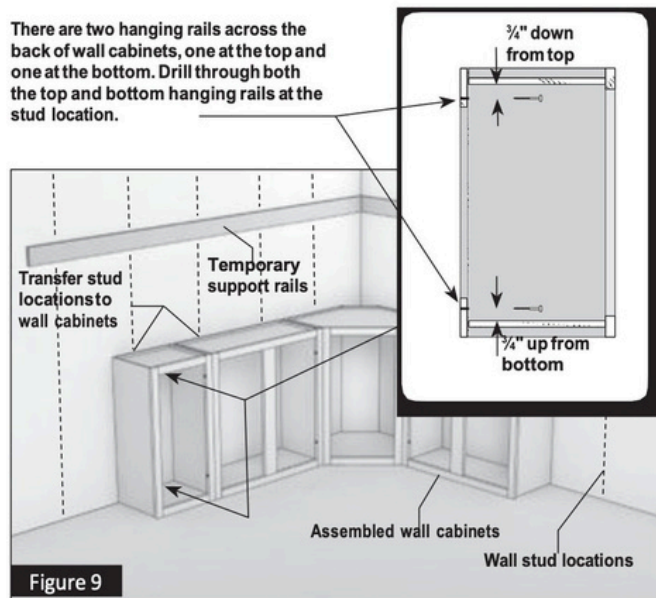

Figure 9
- 2.8** Once all cabinets are pre-assembled on the floor, measure from the corner to the first stud mark and transfer the measurement to the inside of the cabinet to be installed. Repeat this step for each and every stud. Now drill $\frac{7}{32}$ " holes for mounting through the top and bottom hanging rails inside of the cabinet $\frac{3}{4}$ " down from the top and $\frac{3}{4}$ " up from the bottom. (Figure 9)